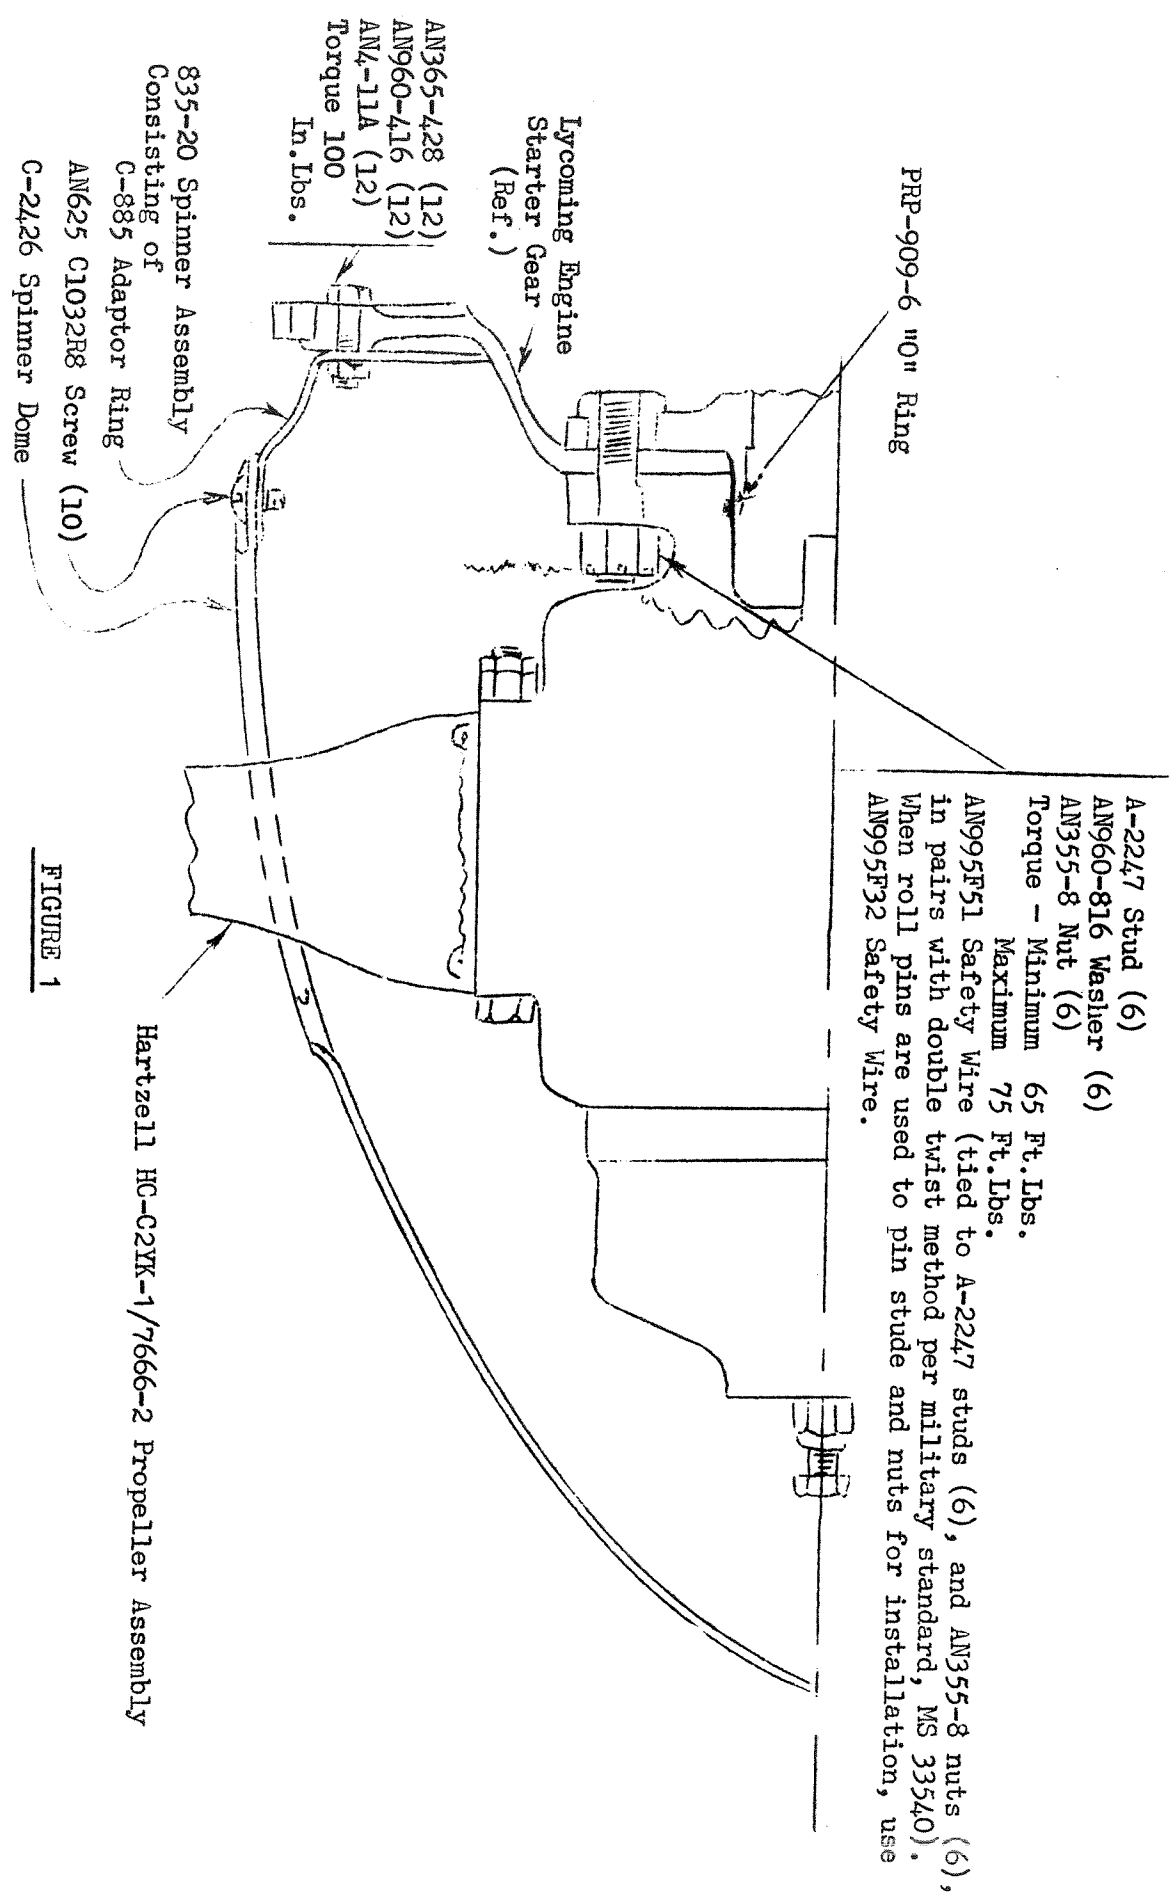

FIGURE 1
4. Lubricate the "O" ring in the propeller mounting flange with light oil, install the spinner bulkhead and install the propeller, using caution to slide the propeller straight onto the crankshaft so as not to damage the "O" ring. Torque the bolts to 65 to 75 ft. lbs., install safety wire in the bolts, and install the spinner (See Figure 1).